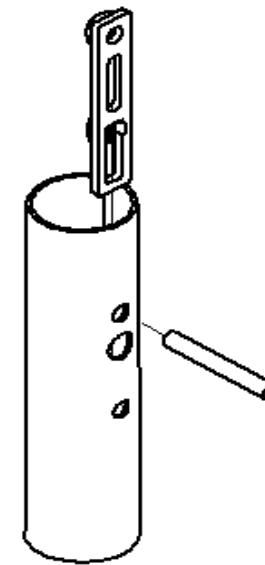

FIGURE 4A
4. From the hardware kit, locate pole mount nutplate and 1/2-13 x 3-7/8" long stud. While holding nutplate inside pole top, insert stud into TOP hole on pole and thread into TOP hole in nutplate. See Figure 4A & B.